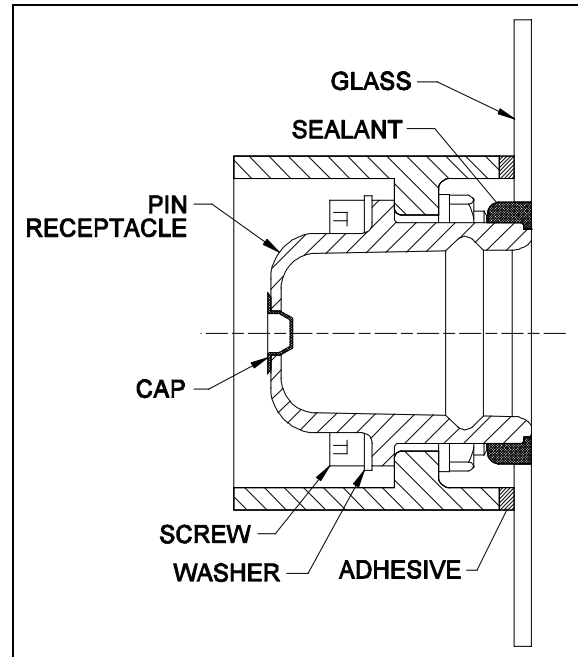
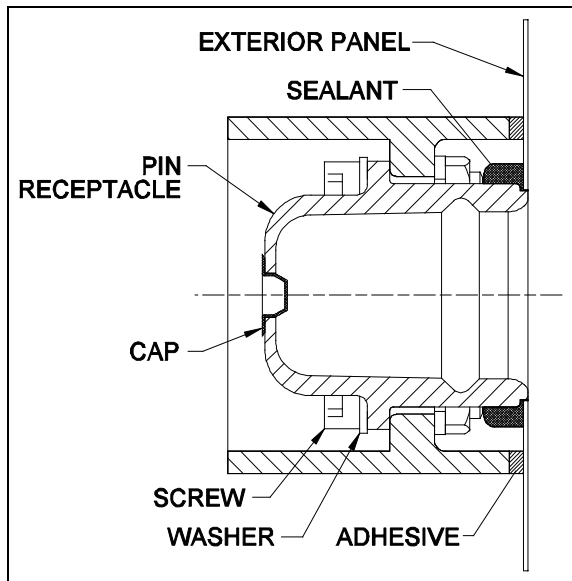

FIGURE 16 : PIN RECEPTACLE ON GLASS
FIGURE 17 : PIN RECEPTACLE ON STAINLESS STEEL PANELS
7. Apply black Sika 222 UV or equivalent product on the glass surface contact with the pin receptacle (figure 16), and black Sika 221 or equivalent product on the panel surface contact with the pin receptacle (figure 17).